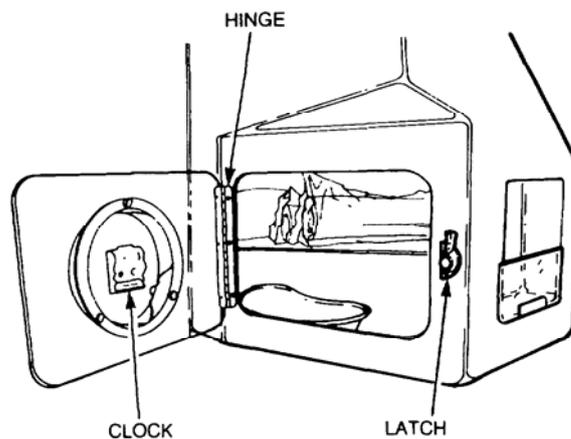

Figure 41 Medical Stores Locker Door Removal
- Remove the rivets securing the door hinge to the locker (refer Figure 41).